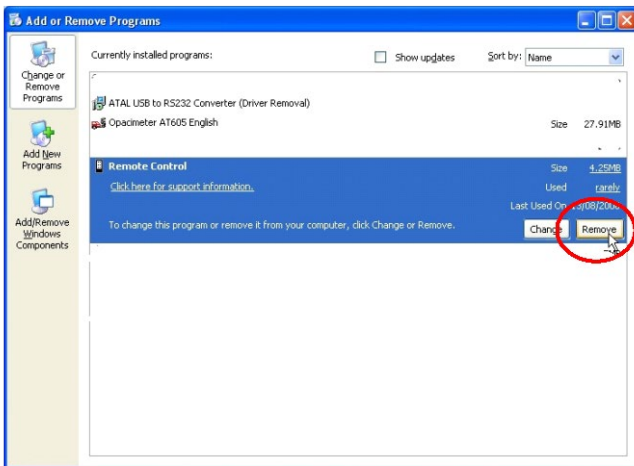
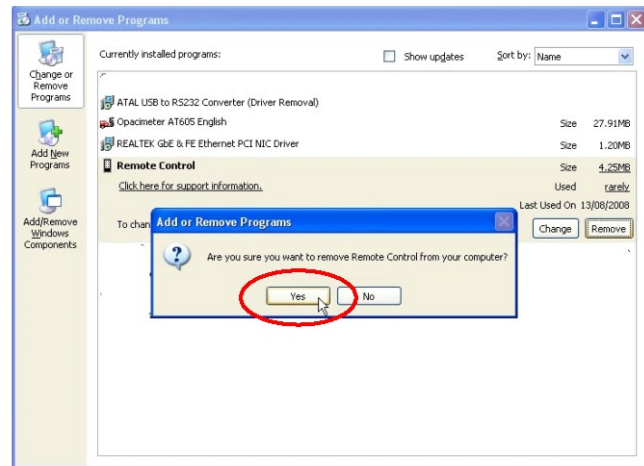

Fig. 77 – Removing the Remote Control program by selecting the Add or Remove Programs in the Control Panel
Fig. 78 – Confirm that you really want to remove the program
a) Click on **Add or Remove Programs** in the Control Panel. Then click on "Remove" (Fig. 77). Confirm this choice in the dialogue box (see Fig. 78) and the **program will be removed promptly and without further warning**